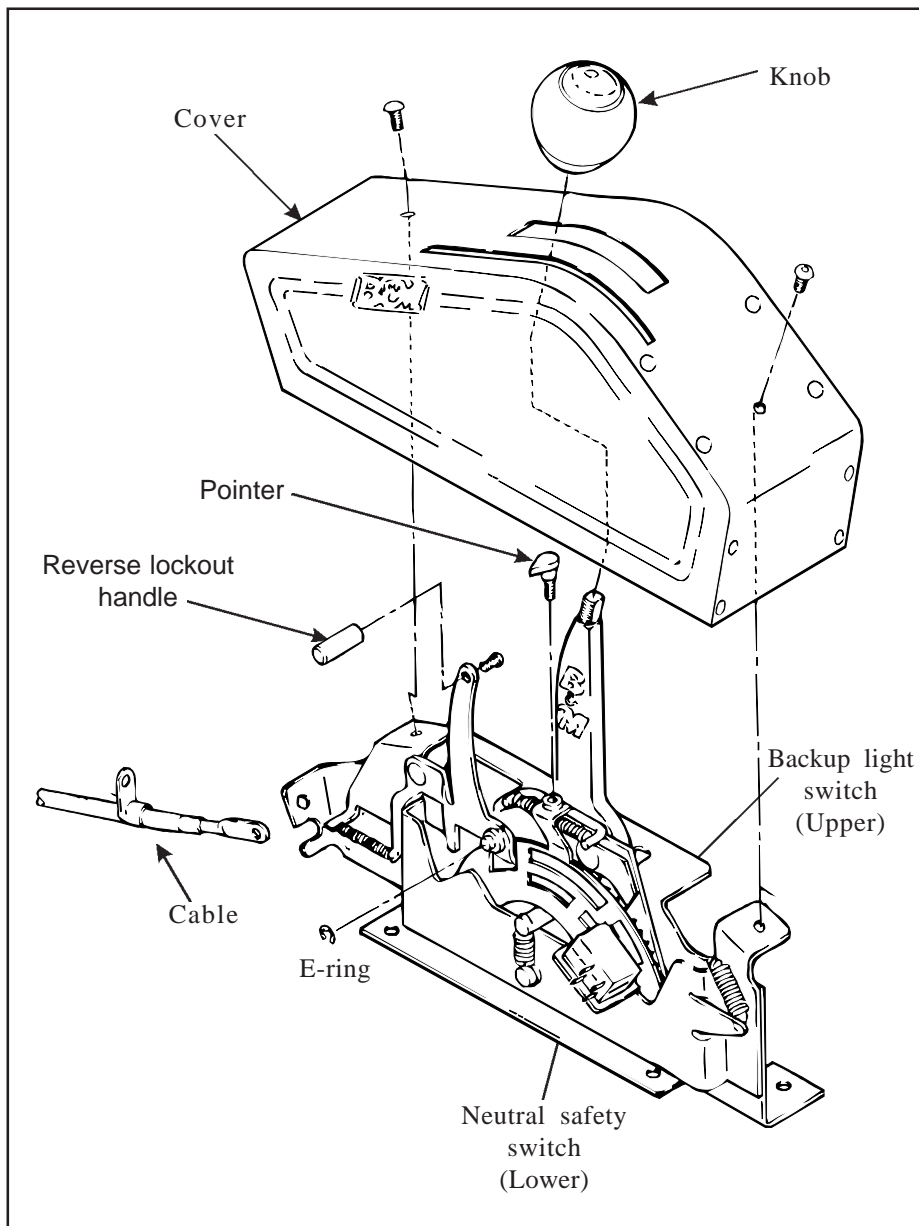

Figure 1
STEP 5. Install the cable on shifter as shown in **figure 1**. The cable attachment tab should be bolted to the outside surface of the shifter base using 1/4" X 1/2" bolt, lock washer and nut. Install E-Ring to secure the cable.
STEP 6. Install the backup light switch and the neutral safety switch in place on the shifter mechanism. Install using two #4-40 screws, nuts and lock washers, as shown in **figure 1**. If necessary bend the fingers slightly so that they engage the slots. **Beware,** Over tightening the switch attachment screws will crack the switch housings. Adjust switches so that the neutral safety switch (the lower switch) operates in Neutral and Park only and so that the backup light switch (the
neutral safety system you have. If the key will not turn to the Start position unless the stock shifter is in Park or Neutral, you have a mechanical interlock, otherwise you have a neutral safety switch. With either type, disconnect battery ground cable to prevent accidental shorts. If you have a neutral safety switch, locate and identify the neutral safety wires (engine will not crank unless these wires are connected together). Extend the wires from the GM switch to the shifter. Strip 1/4" insulation off the wires and install slip-on terminals supplied in kit. Crimp terminals onto wires using a crimping tool or pliers. Connect the Neutral safety wires to the **LOWER** switch and the backup light wires to the **UPPER** switch, see **figure 1**. Tape terminal connections and all other connections to prevent shorts.
On the C-4 and C-5 transmissions it is necessary to completely remove the stock Neutral safety/Backup light switch in order to install the **B&M** transmission shift lever. On C-4, C-5 and C-6 transmissions, it will be necessary to hook up the Neutral safety/Backup light switches on the **B&M Pro Ratchet**. Locate and identify the Neutral safety (the engine will not crank unless these wires are connected together), and Reverse light wires. Disconnect Battery ground cable before beginning to wire the Neutral safety and Reverse light switches. Reroute the wires to the **B&M Pro Ratchet**. Strip 1/4" insulation off wires and install supplied slip-on terminals. Crimp terminals onto wires using a crimping tool or pliers. Connect the Neutral safety wires to the **LOWER** switch and the Reverse light wires to the **UPPER** switch, see **figure 1**. Tape terminal connections to prevent shorts. Reconnect battery ground cable, disconnect coil wire and set the parking brake. Check switch operation by attempting to start motor in each shifter
'66-'68: The Neutral safety switch will continue to function normally. It will not be necessary to hook up the Neutral safety switch wires on the shifter. Disconnect the battery ground cable before wiring the Backup light switch. Locate the original Backup Light switch on the steering column or console shifter. Run these wires to the **UPPER** switch on the **B&M Pro Ratchet**, see figure 1. Reconnect ground wire and check light for proper operation. Adjust switches on the shifter if required.